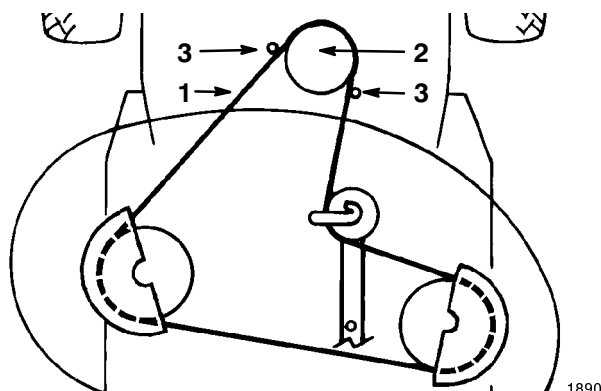

Figure 44
14. Remove the mower belt from the lower engine pulley (Fig. 44). If you are careful, you can flex the belt guide(s) just far enough away from the pulley to remove the belt. If it is too difficult to remove the belt, loosen the bolts and nuts securing the belt guides.
4. Install the mower belt onto the lower engine pulley (Fig. 44). If you are careful, you can flex the belt guide(s) just far enough away from the pulley to install the belt. If it is too difficult to install the belt, loosen the bolts and nuts securing the belt guides.